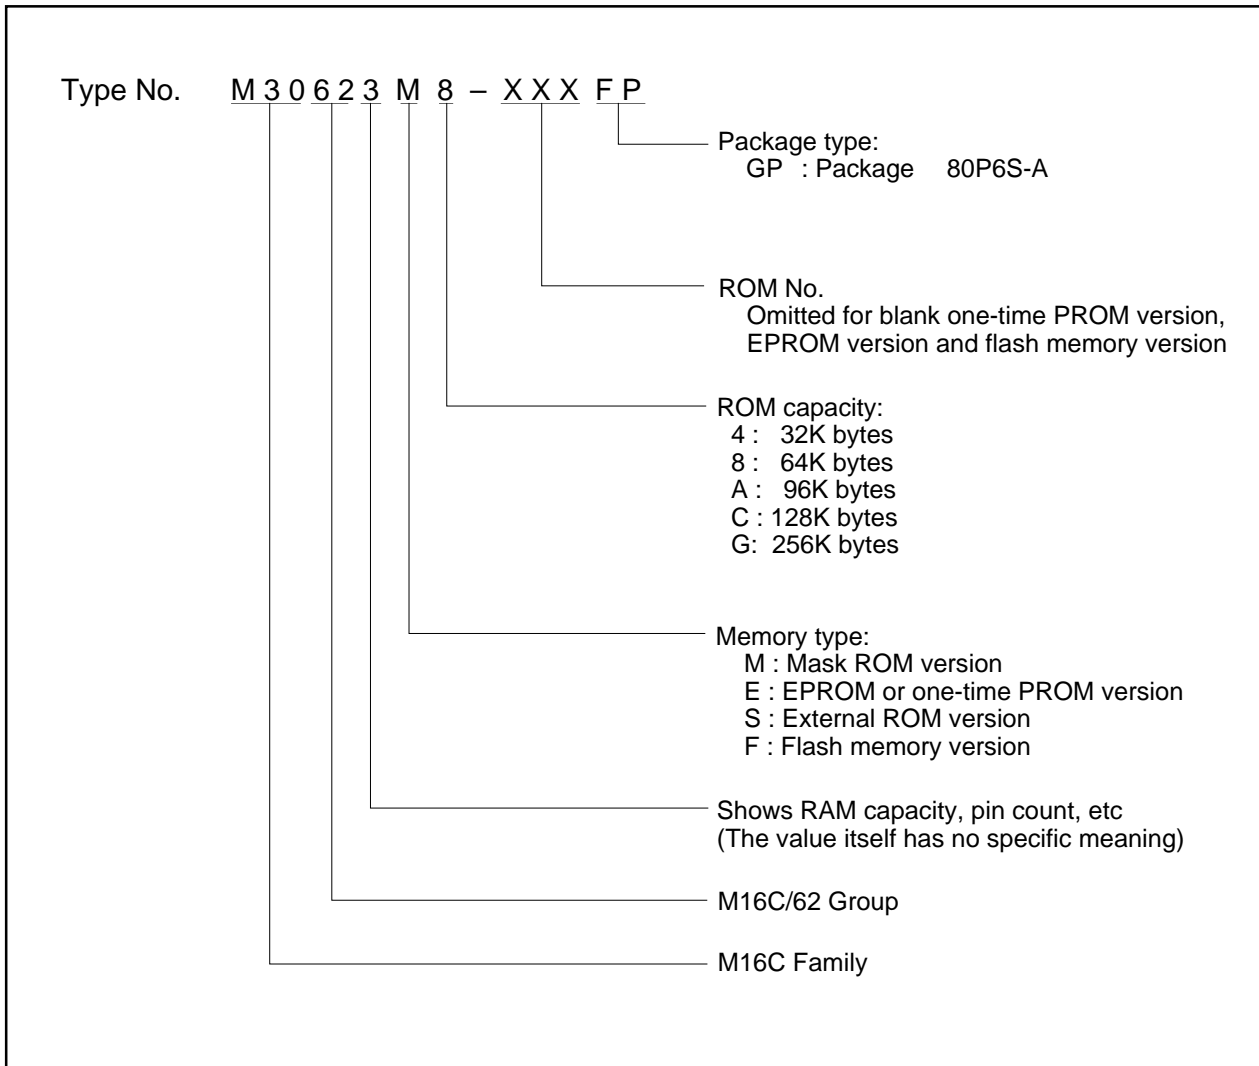

Figure 1.1.4. Type No., memory size, and package
- Memory capacity ROM (See Figure 1.1.4. ROM Expansion)